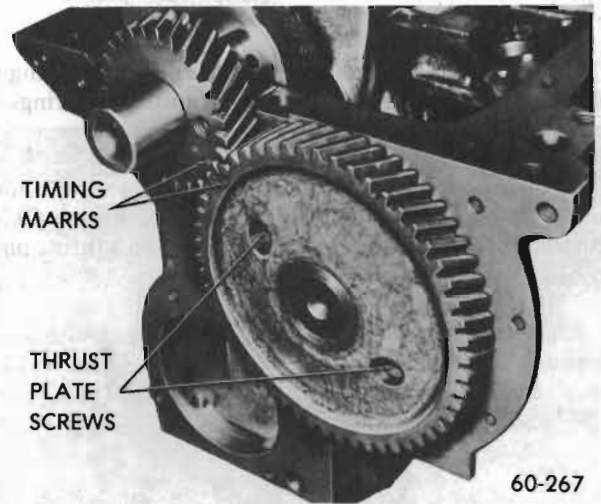

Figure 60-33 - Timing Gear Marks
4. Align timing gear marks then remove the two camshaft thrust plate bolts by working through holes in the crankshaft gear. See Figure 60-33.
2. Turn crankshaft and camshaft so that the valve timing marks on the gear teeth will line up. See Figure 60-33. Push camshaft into position. Install camshaft thrust plate to block bolts and torque to specifications.